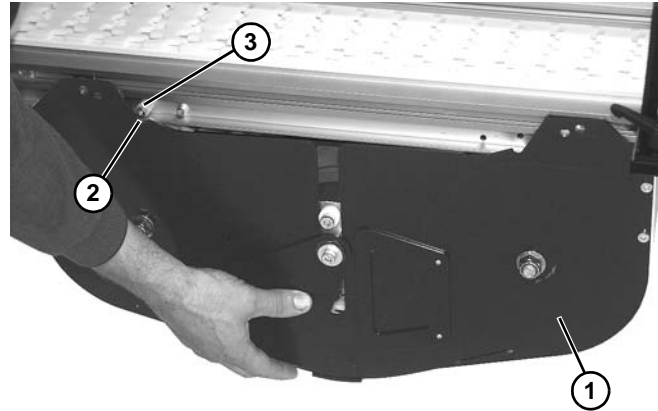

Figure 64
4. Raise weighted take up assembly (Figure 64, item 1) with notch (Figure 64, item 2) in assembly mating with stud (Figure 64, item 3) on conveyor frame.